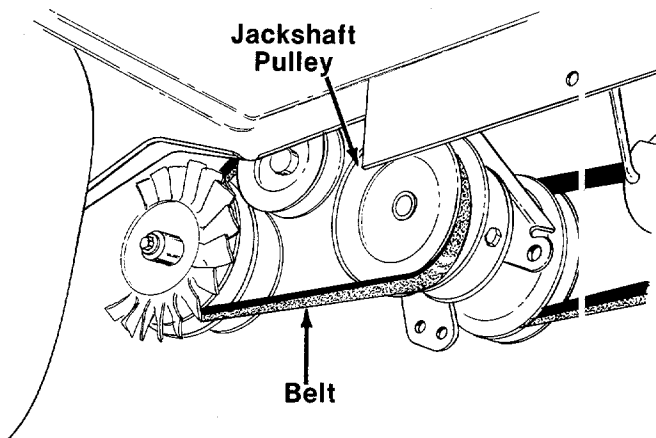

FIGURE 16.
2. Roll the bottom edge of belt off the jackshaft pulley. See figure 16.